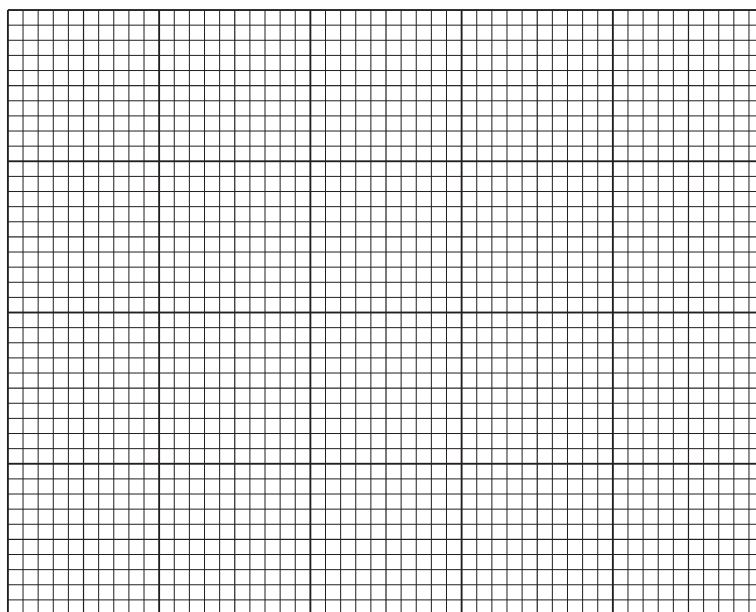

Fig. 1.5
- (i) Plot a graph of the data in Table 1.2 on the grid in Fig. 1.5.